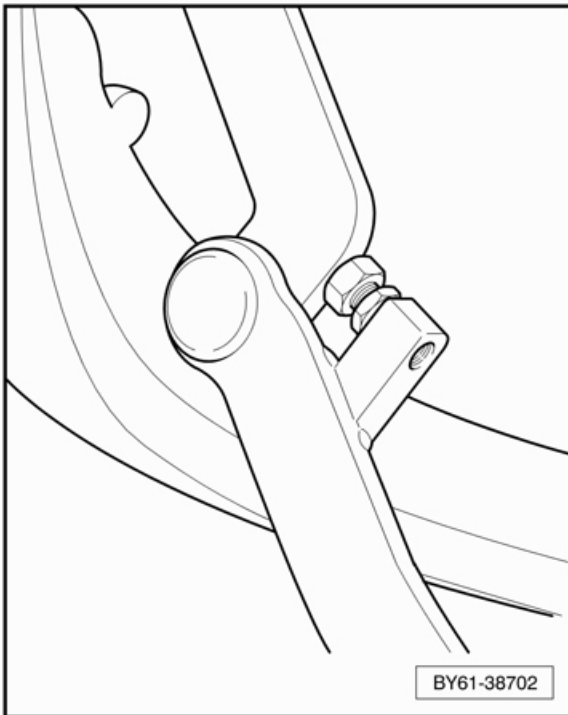

Figure 1
1. With the ignition on, partially raise the power operated roof until the tonneau cover is held in the vertical position and secured against the lock stops on the hinge mechanism (see Figure 1)